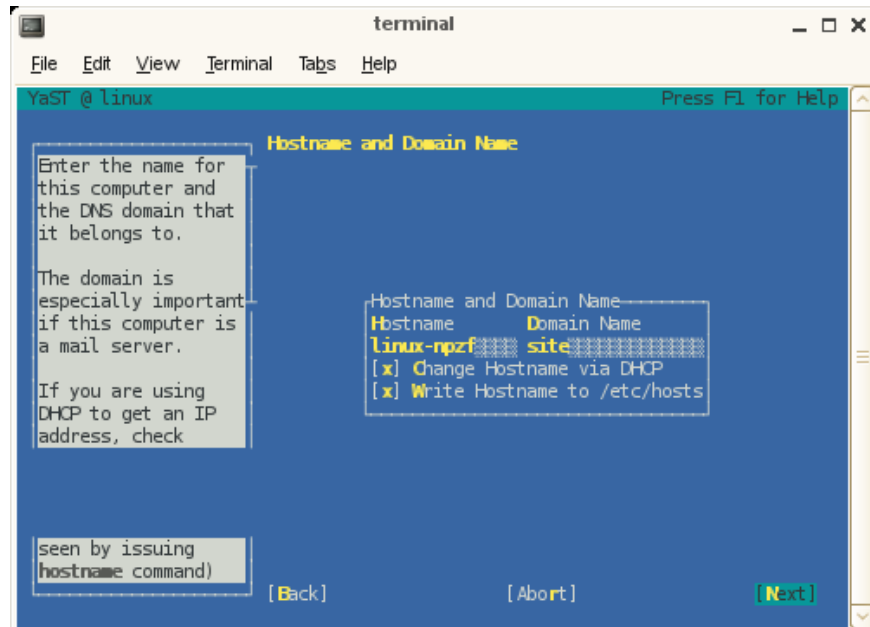

Figure 2-3 Hostname and Name Server Configuration Screen
7. From the **Hostname and Name Server Configuration** screen, as shown in Figure 2-3 on page 37, enter the hostname and domain name of your system in the appropriate fields. Make sure that **Change Hostname via DHCP** is unselected (no x should appear in the box). Click on the **Next** button to continue.